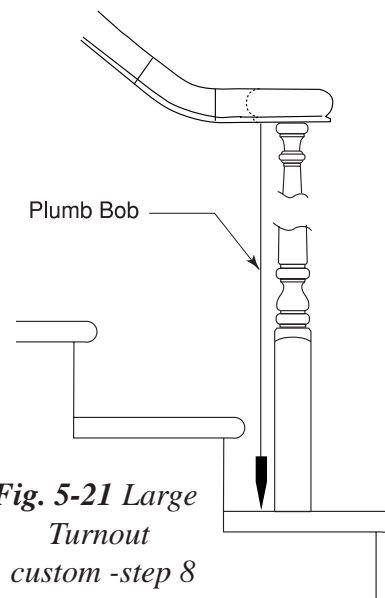

Fig. 5-21 Large Turnout
8. Using a plumb bob, mark a line on the tread that corresponds with the marks on the bottom of the large turnout. Please note Fig. 5-21 here.